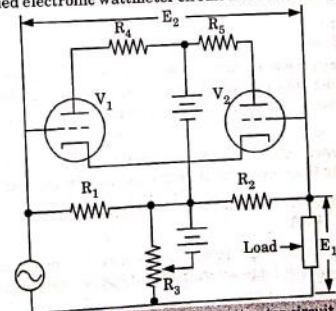

Fig. 4.4.1. Simple electronic wattmeter circuit.
2. A simplified electronic wattmeter circuit is shown in Fig. 4.4.1.